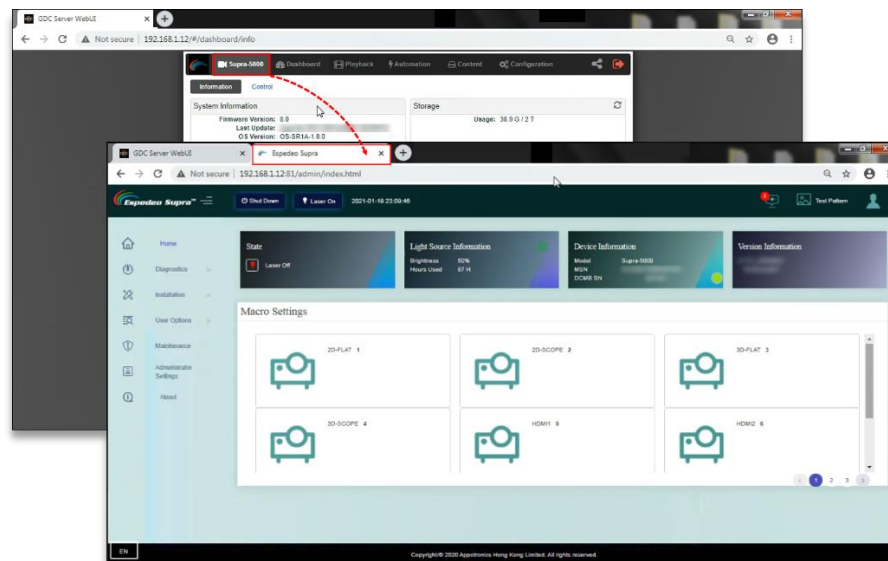

Figure 16: Accessing Supra Command Center when Single tab mode is disabled
- b. When the **Single tab mode** option is disabled; you can click on the **'Supra-5000'** tab to open and access the Supra Command Center web interface in a new browser tab (as shown in **Figure 16**).